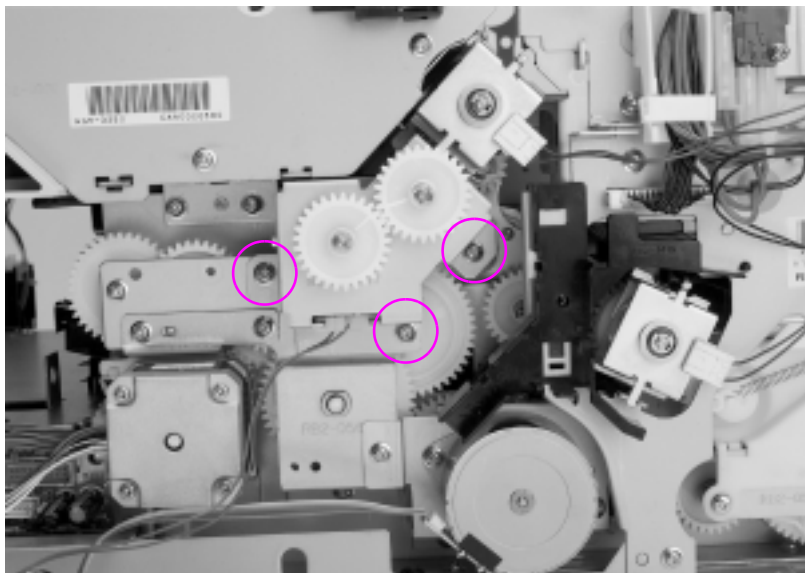

Figure 6-49 ITB clutch assembly removal and replacement (2 of 2)
- 6 Remove the three screws shown in Figure 6-49 and remove the clutch assembly.